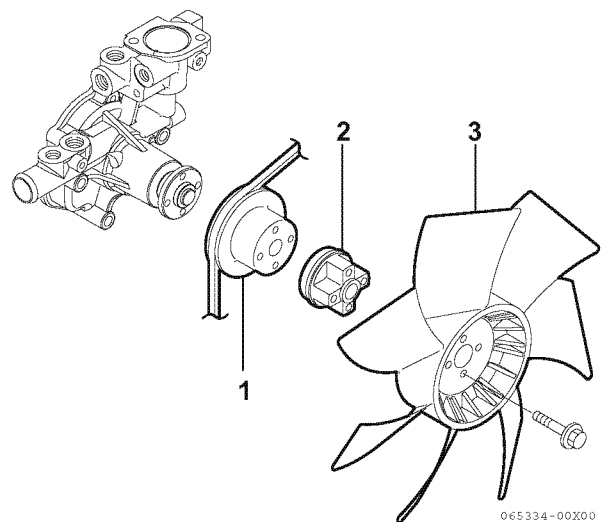

Figure 8-13
4. Reinstall the engine coolant pump V-pulley (1, **Figure 8-13**), spacer (2, **Figure 8-13**) engine coolant fan (3, **Figure 8-13**) and engine coolant fan guard (if equipped).